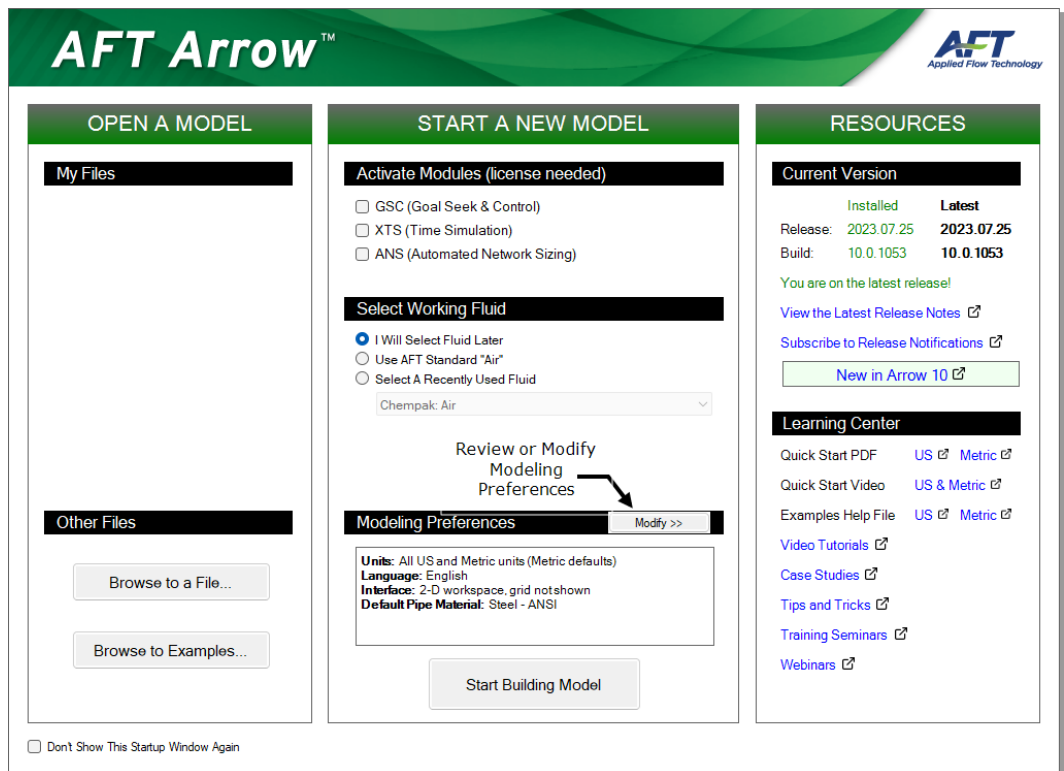
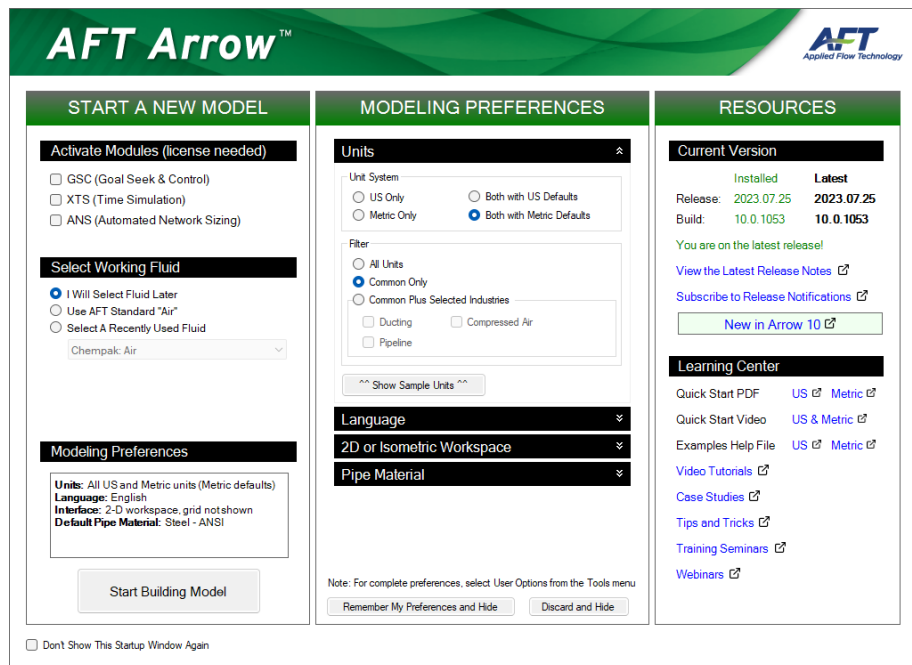

Figure 2.1 Startup Window with Modeling Preferences Collapsed
Figure 2.2 Startup Window with Modeling Preferences Expanded
As AFT Arrow starts, the Arrow Startup window appears, as shown in Figure 2.1. This window provides you with several options you can choose before you start building a model.
If this is the first time that you have started AFT Arrow, Modeling Preferences will be expanded in the middle section of the Startup Window, as shown in Figure 2.2. If this is not the first time that you have started AFT Arrow, the Startup Window will appear with Modeling Preferences collapsed, as shown in Figure 2.1.
When collapsed, you can view your current Modeling Preferences at the bottom of the Start a New Model section. To further review or adjust your preferences, click the Modify button (see Figure 2.1).
- **With Modeling Preferences expanded, as in Figure 2.2, select Both with US Defaults under Unit System.** The Filter section can be used to limit the number of units that are shown in the interface.